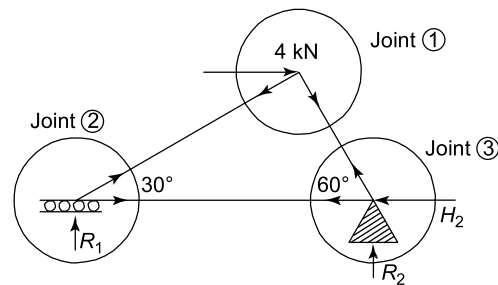
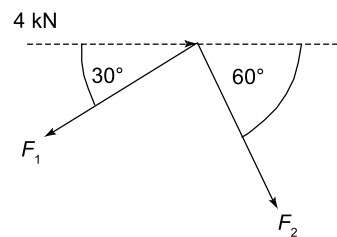

Figure 6.30
Figure 6.31
Firstly, we will assume that all unknown internal forces are in tension, as shown by Figure 6.30.
Next, we will isolate each joint by making imaginary cuts around each joint, as shown by the circles in Figure 6.30; this will result in three free body diagrams. The first free body diagram will be for joint (1), as this joint has two or less unknown forces; see Figure 6.31.